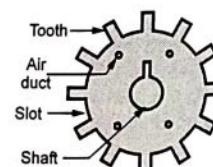

Fig. 7.3.3 Single circular lamination of armature core
- It is made up of laminated construction to keep eddy current loss as low as possible. A single circular lamination used for the construction of the armature core is shown in the Fig. 7.3.3